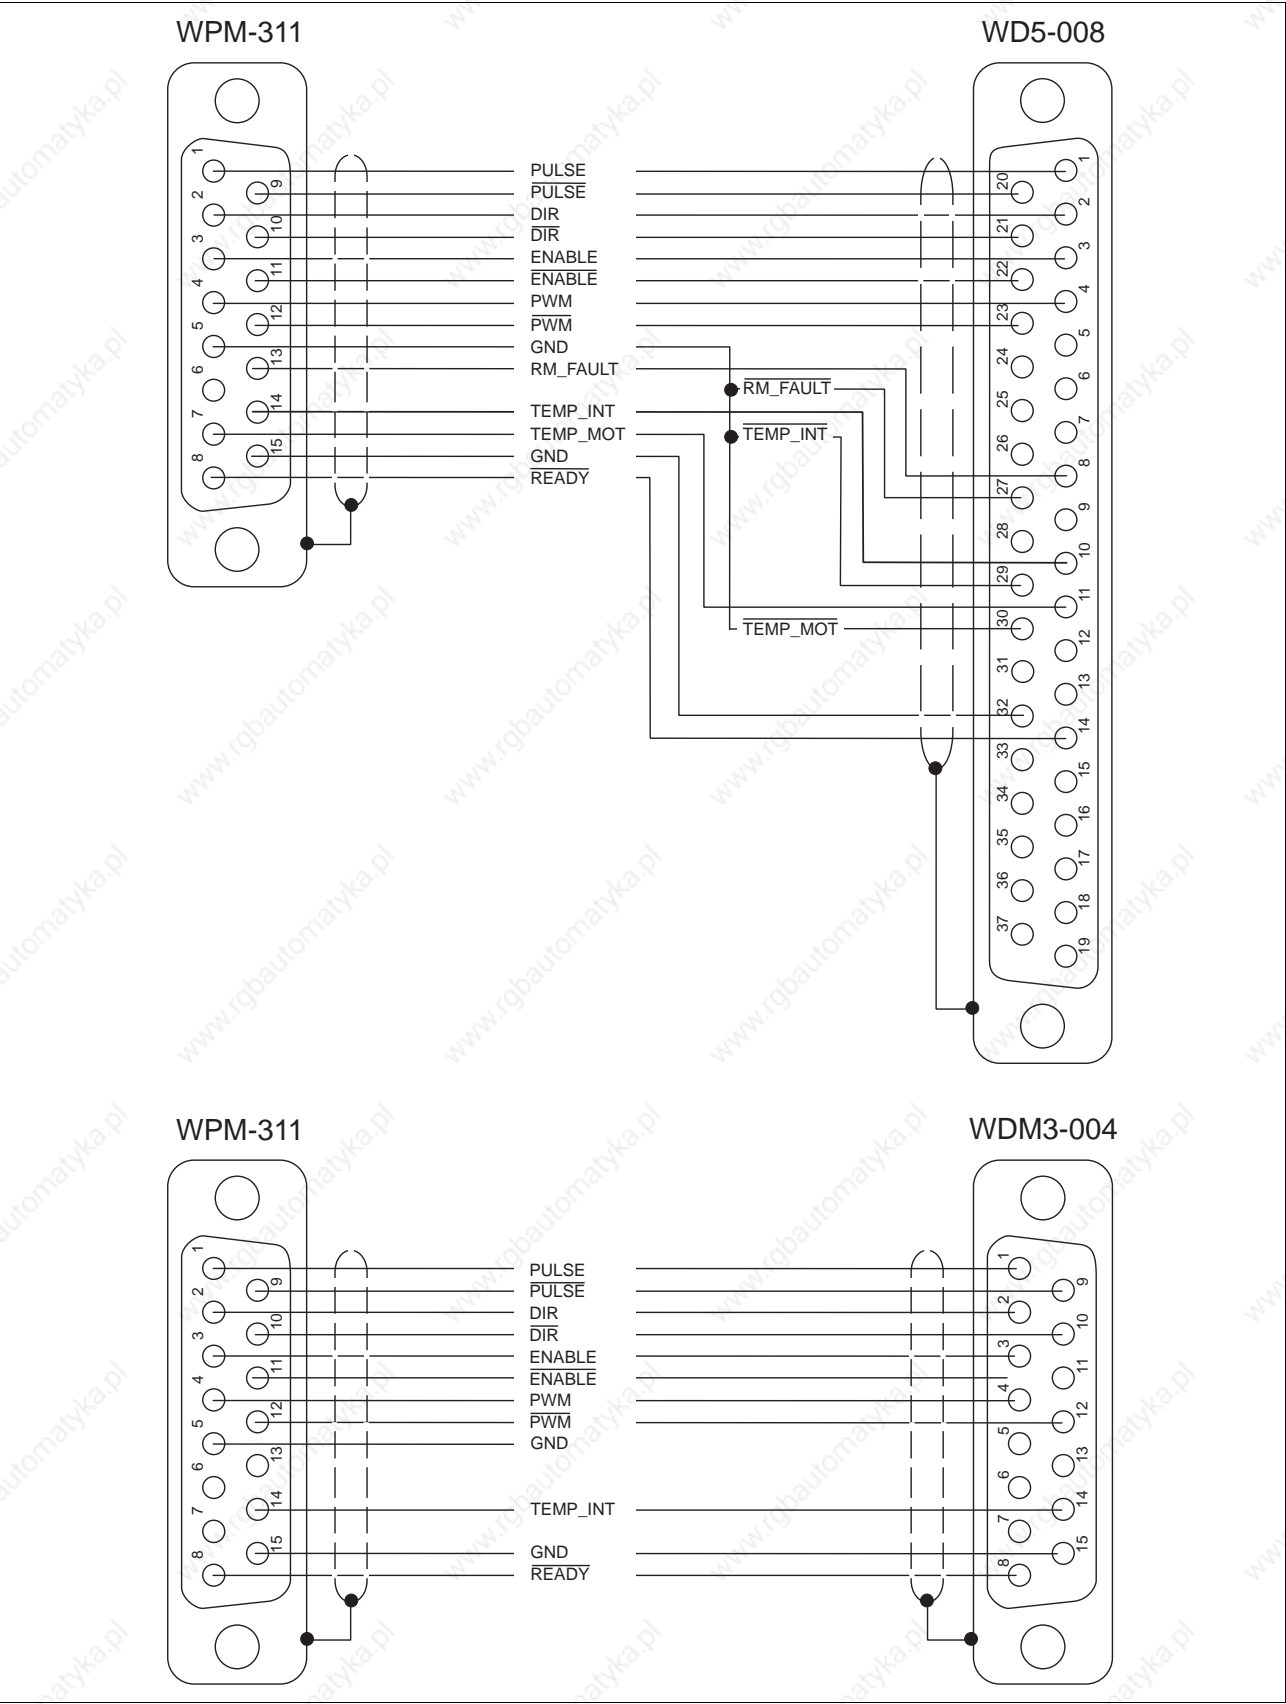

Fig. 2-4 Wiring example
8. Fasten the connector to the front panel (items 1, 2, 3 and 4) with screws.
9. Establish the connection on the power controller end; see fig. 2-4.